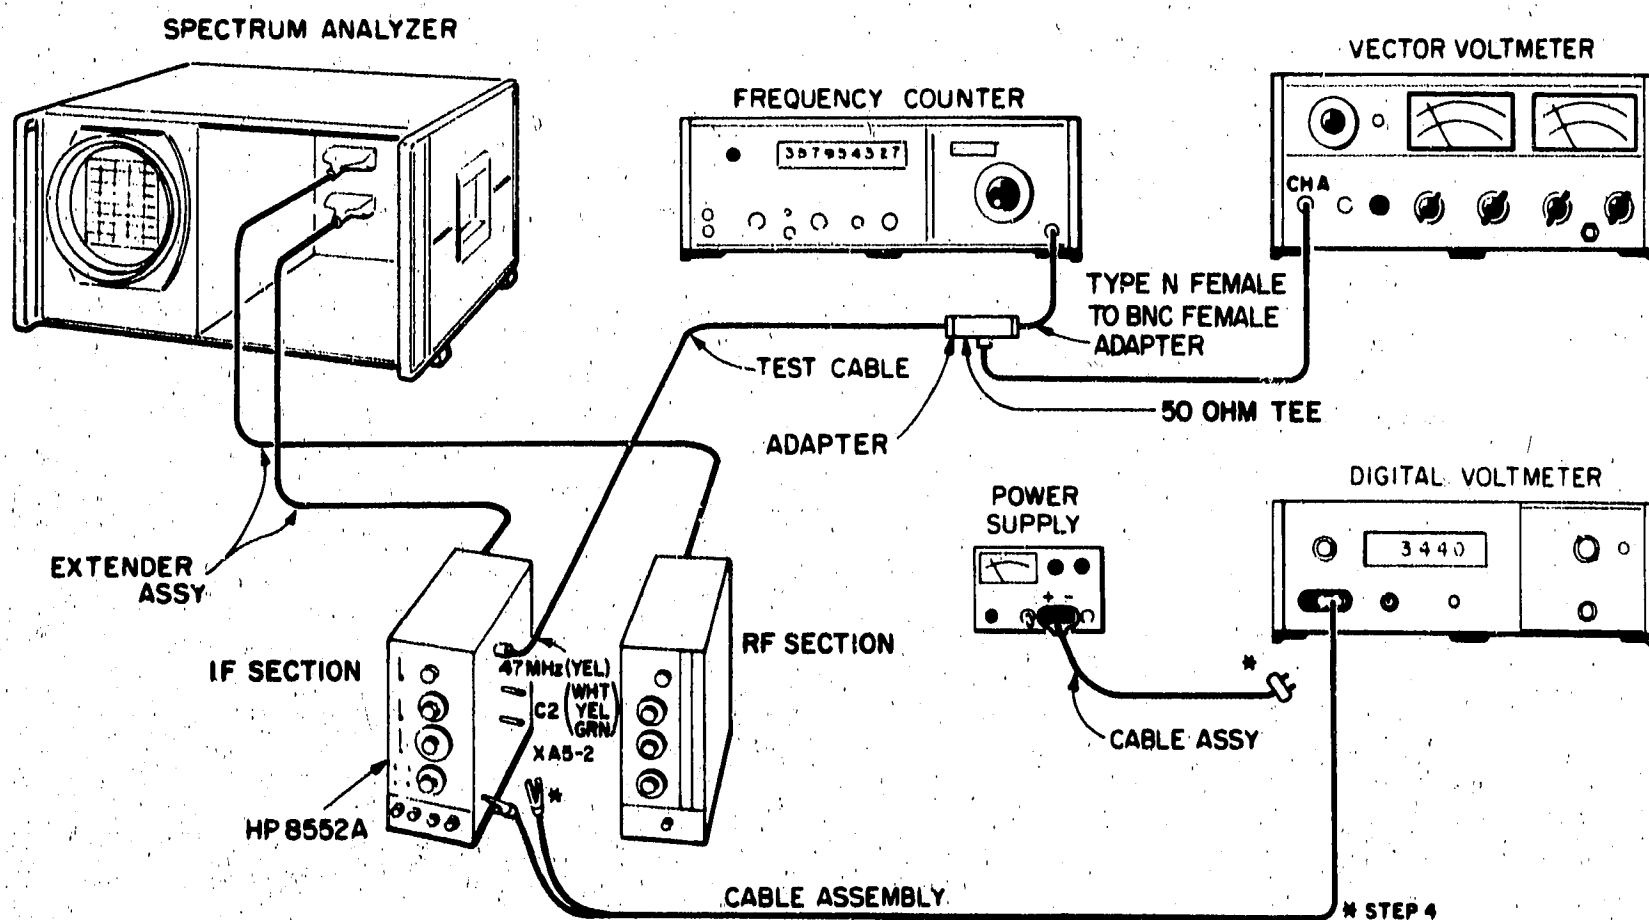

Figure 5-13. 47 MHz Local Oscillator Check and Adjustment Test Setup
2. Refer to Figure 5-13 and note no interconnection between the IF Section and the RF Section. This eliminates inputs to the 47 MHz local oscillator tuning amplifier. Connect a clip lead between XA5-5 and chassis ground. Connect the DVM to C2 and measure the voltage. The level should be 0 ± 200 mVdc.